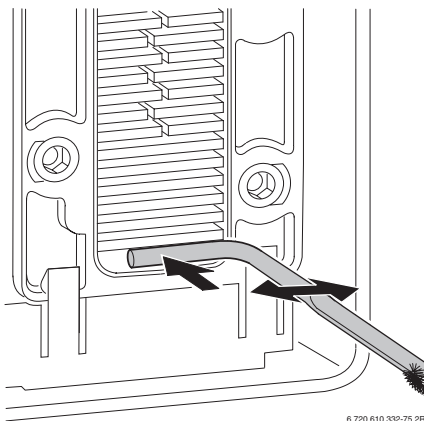

Fig. 49
- Flush the heat exchanger from the top. Refer to fig. 49.